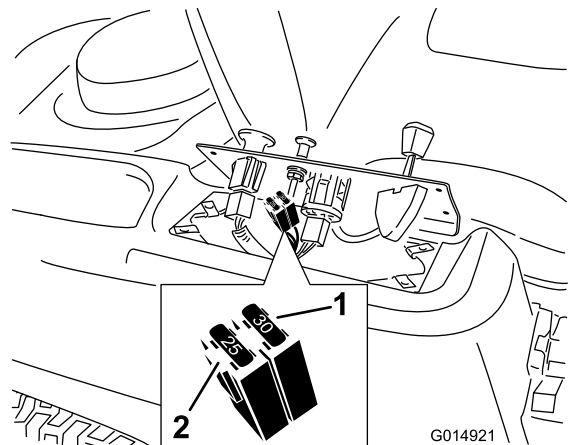

Figure 41
2. Lift the control panel up to access the main wire harness and fuse block (Figure 41).
3. To replace a fuse, pull out the fuse to remove it (Figure 41).
2. Locate the shaft on the electric brake where the brake-link arms are connected (Figure 41).